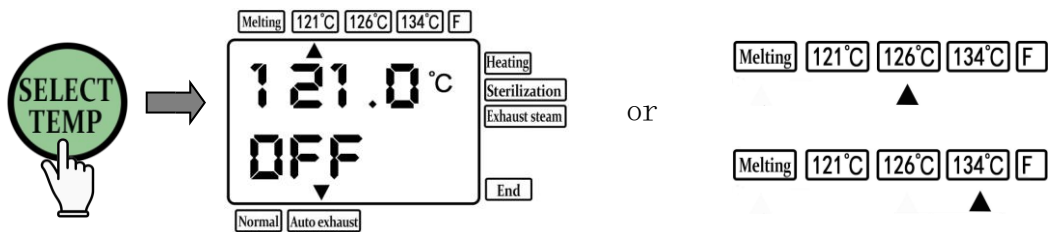

Fig. 11
① Set the sterilization temperature: Select the sterilization cycle according to the sterilization. This product presets three one-key operation modes of "121° C", "126° C", and "134° C". Press "Temperature Selection" key to select the desired One-key temperature (**Fig.11**). **Note: In the one-key mode, the sterilization temperature has a corresponding sterilization default time, including 121° C-20min, 126° C-15min, and 134° C-20min.** Regarding the melting function, please refer to Chapter 7 "Instructions of Control Panel".